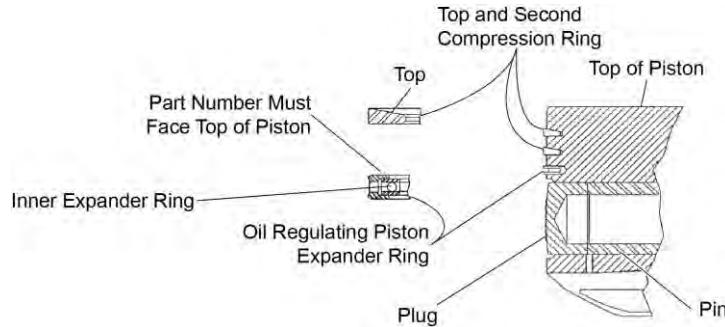

Figure 13
- B. Make sure that the gap in the oil regulating piston expander ring is 180° opposite the gap in the inner expander ring (Figure 13).
- C. With the piston top side up on a workbench, install the oil regulating piston expander ring (Figure 13) in the first groove above the piston hole, with the part number facing the top of the piston.
- D. Install the two top compression rings (Figure 13) with the word "Top" toward the top of the piston in the remaining top grooves.